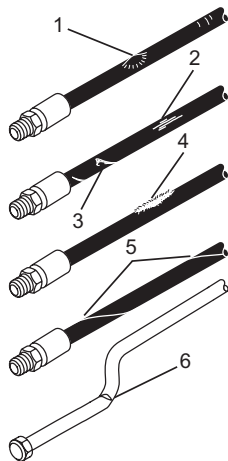

Figure 5
- Bulging (Figure 5, Item 1)
- Cracks (Figure 5, Item 2)
- Cuts (Figure 5, Item 3)
- Abrasion (Figure 5, Item 4)
- Twisting (Figure 5, Item 5)
- Crimped (Figure 5, Item 6)